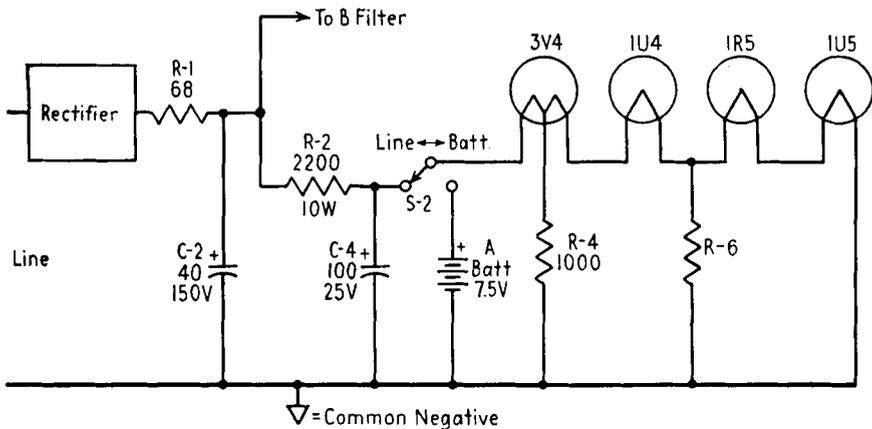

FIG. 19-12. The *A* circuit in three-way portable receivers.
**The *A* circuit in three-way portables.** A basic complete *A* circuit of a three-way portable is shown in Fig. 19-12. The filament circuit is on the right, and when changeover switch *S-2* is in the battery position, a 7.5-volt *A* battery supplies the filament current. Bypass resistor *R-4* is in the cathode circuit of the 3V4 tube. This resistor is present in all three-way portables. Resistor *R-6* represents the other bypass resistor used. Its position and value vary with different receivers.
When the switch is in the line position, as shown in Fig. 19-12, the filament chain is fed from the line. Resistor *R-1* is a surge resistor which prevents the initial charge current of filter condenser *C-2* from overload-